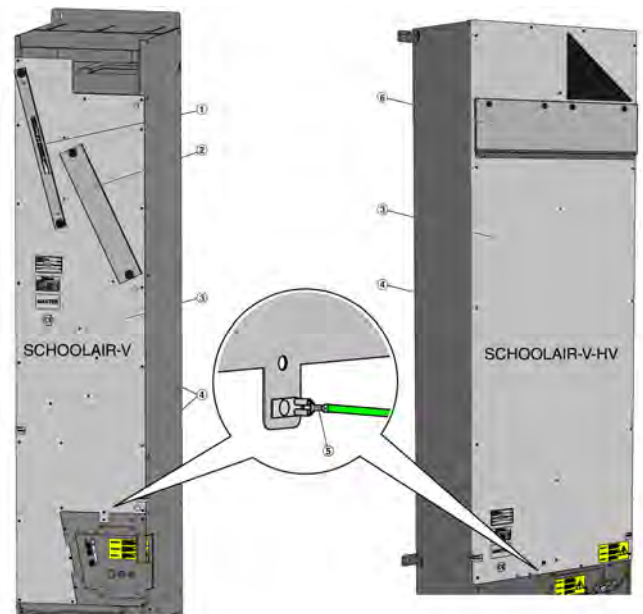

Fig. 32: Removing the cover plate (SCHOOLAIR-V and SCHOOLAIR-V-HV only)
3. ▶ Remove the extract air filter (Fig. 32 /1) and remove the cover (Fig. 32 /2) from the outdoor air filter chamber ↪ on page 34 .
5. ▶ Remove the cover plate (Fig. 32 /3) by loosening all the Phillips screws (Fig. 32 /4) on the plate.
Disconnect the protective conductor (Fig. 32 /5) when you remove the plate.